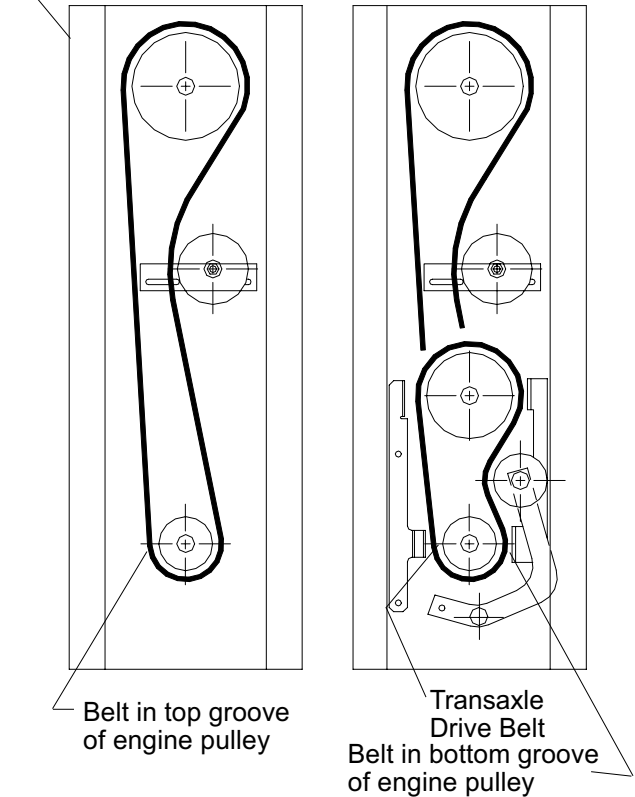

Fig. 3
- 5.(cont) This will loosen the belt guides(Items 149 & 150) and allow them to move to the side. NOTE: This step requires the use of a universal joint or universal extension bar to reach the screws(103) holding the belt guide(149). If universal joint is not available you may remove the "neutral stop bolt"(Item 115) and associated nuts (116 & 117) to allow the idler arm to swing back and allow access to the screws(103) holding the belt guide(149).
6. With the guides loose slip the blade drive belt(29) out of the groove on the drive pulley and down past the pulley. Note: It is necessary to remove the transaxle drive belt(10) from its groove to allow removal of the blade drive belt.
9. Reach through from rear of machine and pull new belt through and install it in the groove on the clutch/brake drive pulley. NOTE: Make sure the blade belt is properly seated in the clutch/brake drive pulley(Item 23) and not resting in the gap between the clutch/brake pulley(23) and the transaxle drive pulley(46)
10. Tighten four screws to secure belt guides (item 149 & 150) in place. NOTE: Be sure belt is correctly routed when replacing. (See Fig. 3)
11. Set tension on belt by reaching in through top of engine base with a long screwdriver or other pry bar and pushing the idler pulley over against the belt to increase tension. While holding the belt under tension tighten the two screws (107) that hold the idler arm in place. Note: Proper belt tension can be verified by checking the tight side (non-idler side)belt deflection. The belt should deflect 3/16"-1/4" with force applied perpendicular to the belt after tensioning.
12. Replace engine base door (item 7) and tighten screws to hold it in place